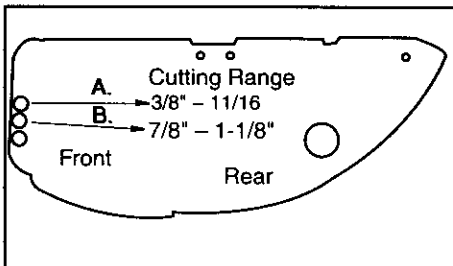
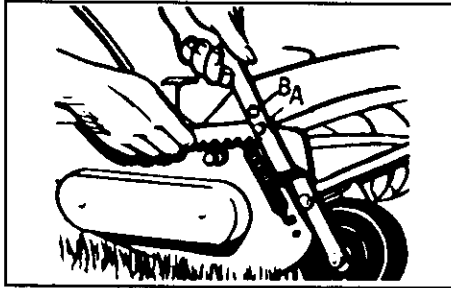

FIGURE 13
FIGURE 14
- Front wheel assembly bar may be moved in 2 holes (in side panels) to adjust height (Fig. 13).
CAUTION: To avoid possible damage to front wheels do not start mower before setting height adjustment. Notched height bracket at right front of mower (Fig. 14) must be placed at desired cutting height position.
For fine adjustment moving lever at front of mower (Fig. 14) allows range of 8 settings, four each for first and second adjustment holes in mower body (fig. 13).
Lift lever as shown (Fig. 14) and adjust height by repositioning notched bracket.
*When using A or B hole (Fig. 13), notched lever (Fig. 14) must be changed to A or B hole also. (Use A in Fig. 13 & A in Fig. 14).